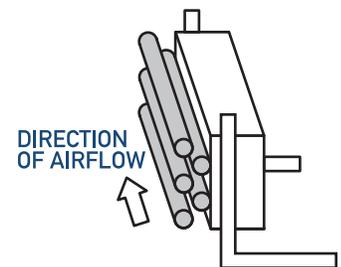

FIGURE 2 - SUGGESTED "L" BRACKET MOUNTING
- a) To mount the units inside an air handling unit, use "L" shaped brackets that are secured to the walls or floor of the AHU with sheet metal screws. The units should be installed so there is sufficient airflow across the ionization tubes, after the system filter, and not immediately downstream of the cooling coil to avoid any moisture carryover. See figure 2
- 4) It is preferable, although not mandatory, to install the units with the tubes parallel to the airflow. See figure 2